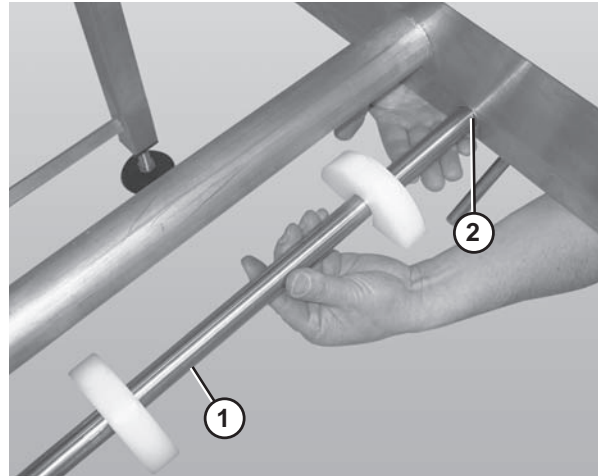

Figure 56
1. Remove the belt returns by pushing up on the return shaft (Figure 56, item 1) and sliding it through the large hole (Figure 56, item 2) in the frame.
2. Lower the opposite end of the return shaft (Figure 56, item 1) and slide it out of the frame.